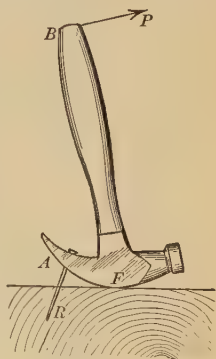

FIG. 16.—Hammer as a bent lever.
23. Bent lever. Consider next a claw hammer (Fig. 16) with a 12-inch handle. If a 60-pound pull (P) at B is necessary to pull the nail at A , which is 1.5 inches from F , what is the resistance (R) which the nail offers? The moment of P is $P \times BF$, and the moment of R is $R \times AF$, therefore $60 \times 12 = R \times 1.5$, and $R = 480$ pounds. In this case it will be seen that the two arms of the lever are